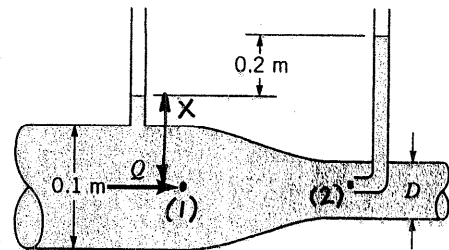

FIGURE P3.32
3.32 Water flows through the pipe contraction shown in Fig. P3.32. For the given 0.2-m difference in the manometer level, determine the flowrate as a function of the diameter of the small pipe, D .